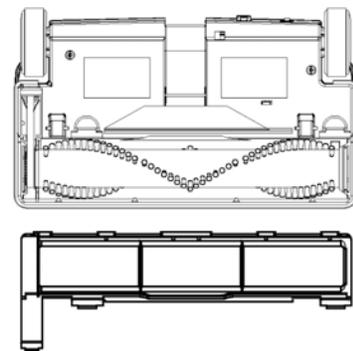

Figure 6
6. Replace the brush cover by inserting the tabs on the front of the cover into the appropriate slots in the Powerbrush base (as shown in Figure 6) and press down on the three clips until they snap-lock into place.